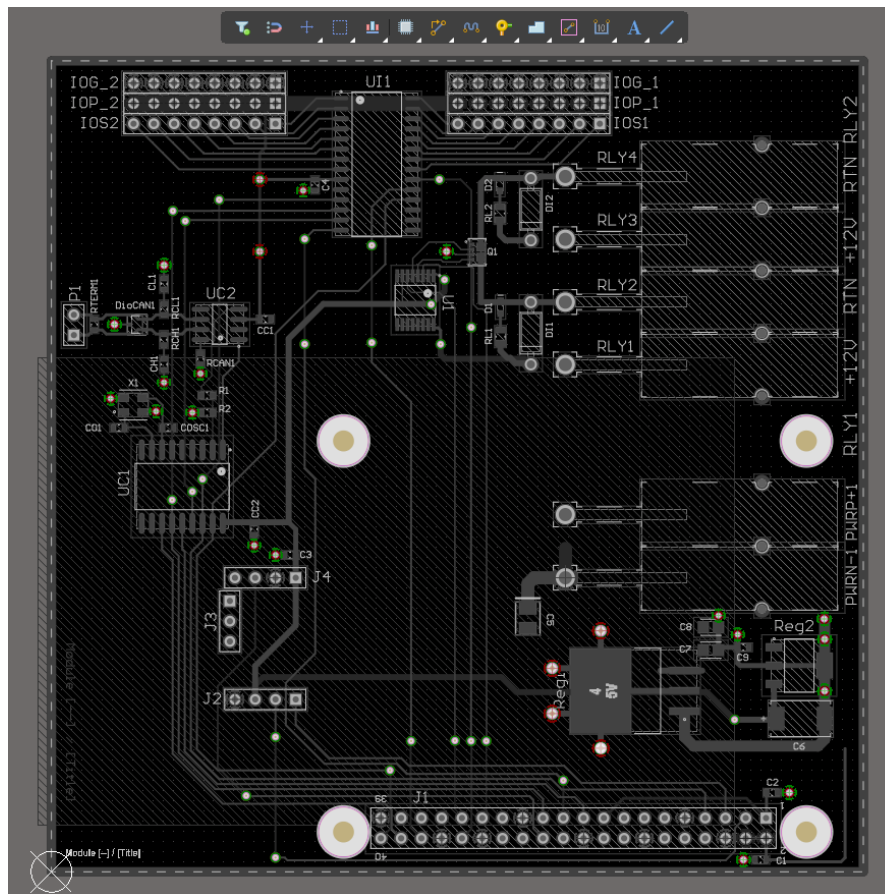

Figure 9. All Vias selected using the Find Similar Objects dialog
32. Click the **Apply** button to select all vias in the design as shown in Figure 9 below.